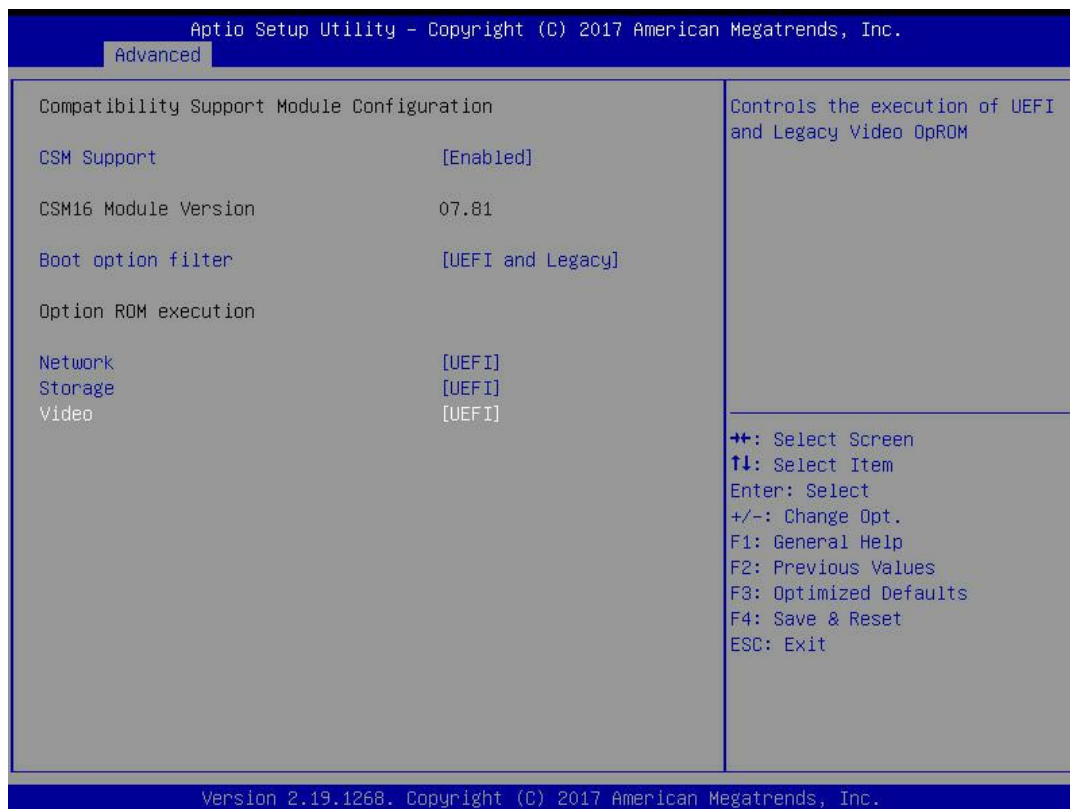

Fig. 6.2
- Ensure that storage and video in CSM configuration are in UEFI mode, as shown in Fig. 6.2
- Fig. 6.2 Set storage and video to UEFI mode